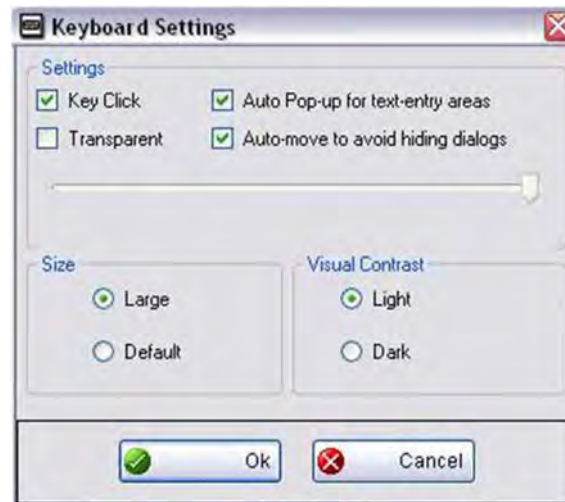

Figure 3-5 Virtual Keyboard settings window
- **Settings** - opens the Virtual Keyboard settings window (Figure 3-5)
1. **Settings icon** - opens the Virtual Keyboard settings window (Figure 3-5)
The Virtual Keyboard can be set to open automatically, when a data field or form is selected in certain applications. See the Settings window (Figure 3-5) for selection options.